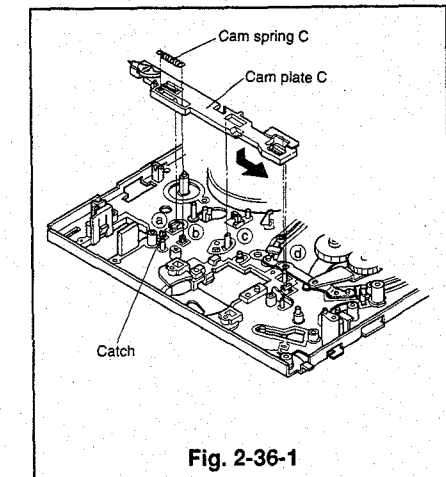

Fig. 2-36-1
- ① Remove the reel belt and the belt pulley. (Refer to Para. 2-28 for the removal method.)
- ② Remove the reel idler assembly. (Refer to Para. 2-35 for the removal method.)
- ③ Remove the loading motor assembly (which holds the motor holder). (Refer to Para. 2-29 for the removal method.)
- ④ Remove the main gear-J. (Refer to Para. 2-30 for the removal method.)
- ⑤ Remove the plate-J, the roller-B, and the cam plate-B. (Refer to Para. 2-33 for the removal method.)
- ⑥ Remove the cam spring-C. (Refer to Fig. 2-36-1.)
- ⑦ Slide the cam plate-C to the left end.
- ⑧ Unfasten the catch and raise the cam plate-C to remove it. (refer to Fig. 2-36-1.)
- Position the cam plate-C so that the four points (a), (b), (c) and (d) shown in Fig. 2-36-1 enter into the matching holes and slide it to the right end.